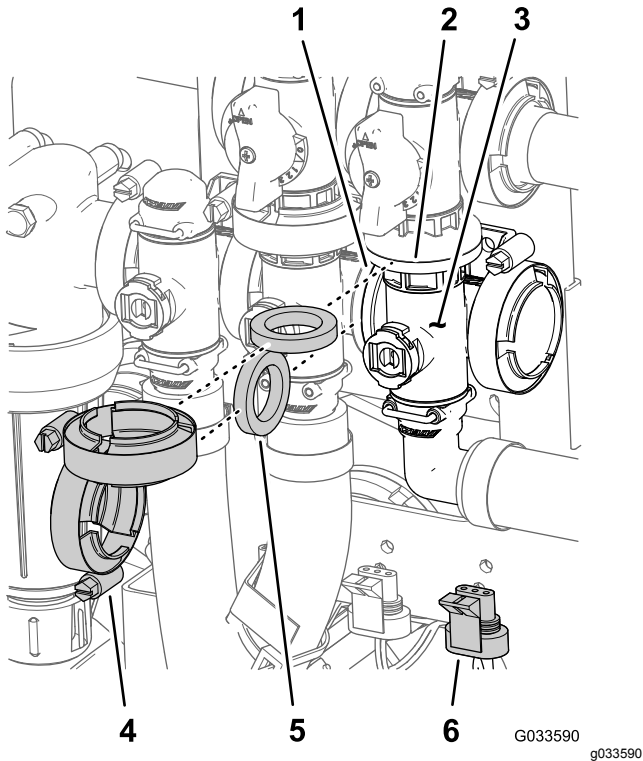

Figure 114
1. Remove flange clamps and gaskets that secure the manifold for the master-boom valve (Figure 114) to the master-boom bypass valve, agitation valve, and 90° flanged elbow (at the end of the hose for the flow meter).